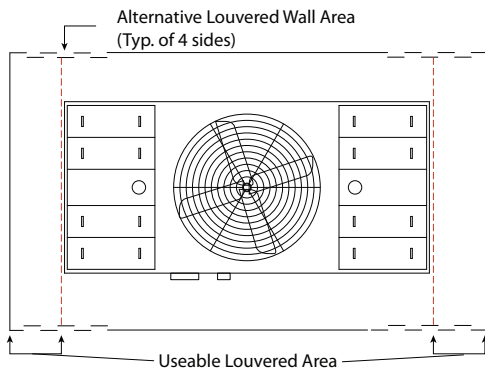

Figure 10. Plan View of Dual Air Intake Unit with Alternate Louver Arrangement
- If the available space does not permit the unit to be arranged with the air intakes facing the louvered or slotted walls and the enclosure cannot be modified to permit such an arrangement, consider the alternative illustrated in **Figures 10 and 11** on the following page. This arrangement should be restricted to one-cell or two-cell installations. The usable area of the louvers is only the length extending beyond the width of the unit.
- If the unit is elevated to ensure the discharge is at the same level or above the top of the enclosure, it is acceptable to extend the louvered or slot area below the base of the units up to 2' if needed to achieve the minimum gross louver area. To calculate air velocity through the louver, the usable louvered or slot area may extend beyond the ends of the unit by a value $\frac{1}{2}$ the unit length (L), with 6' maximum on either side.